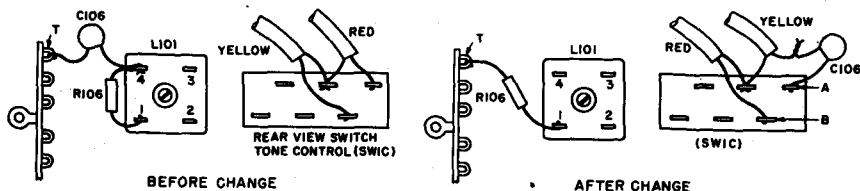

Fig. 15 - Arvin
**Distorted sound after warm-up (see Fig. 15).**